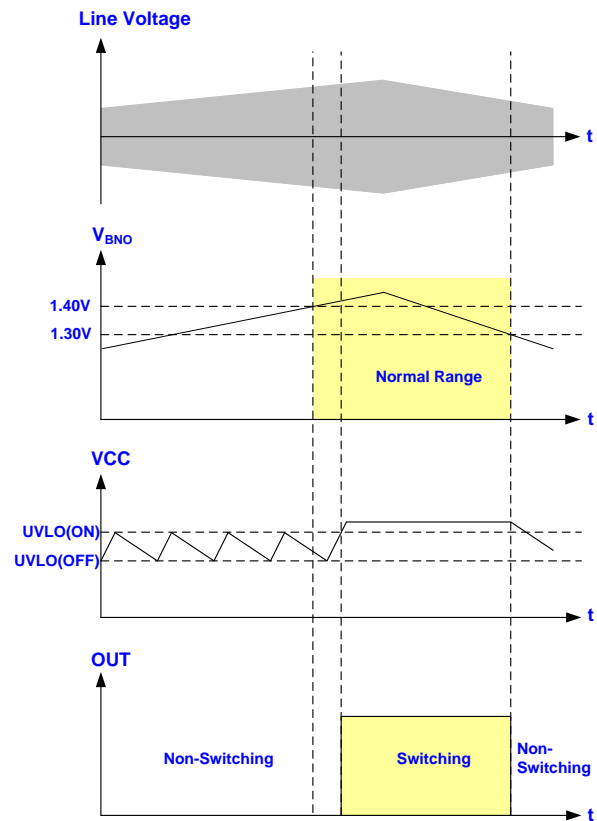

Fig. 21
The LD5537 is programmable for the brownout protection point through BNO pin. The voltage across the BNO pin is proportional to the bulk capacitor voltage, referred as the line voltage. A brownout comparator is implemented to detect the abnormal line condition. As soon as the condition is detected, it will shut down the controller to prevent the damage. Fig. 21 shows the operation. When VBNO falls below 1.30V, the gate output will remain off even as VCC achieved UVLO(ON). It therefore makes VCC hiccup between UVLO(ON) and UVLO(OFF). Unless the line voltage is large enough to pull VBNO over 1.40V, the gate output will not start switching even when the next UVLO(ON) is tripped. A hysteresis is implemented to prevent the false trigger during turn-on and turn-off.